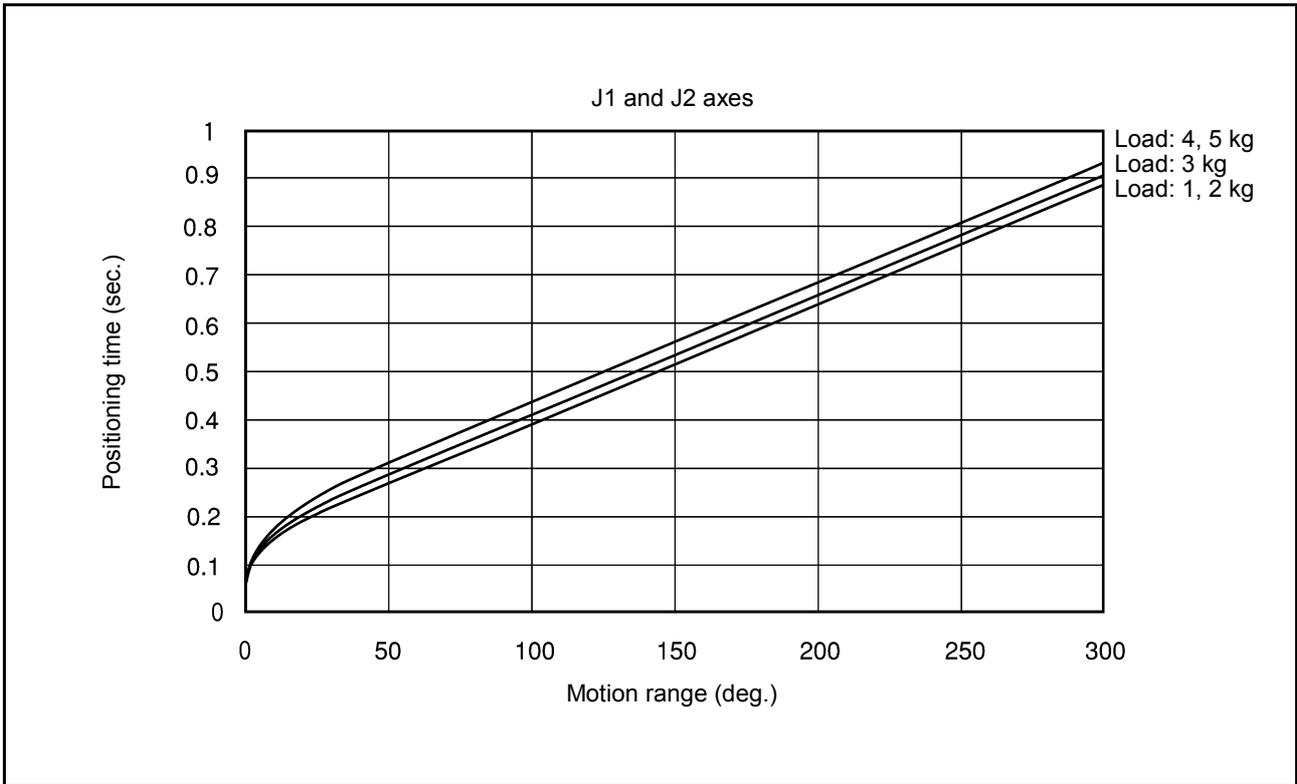

Figure 1-27 Movements of J1 and J2 Axes
1. Figures 1-27 through 1-36 show the positioning times used to calculate the cycle time.
The positioning time of J1 and J2 axes shown in Figure 1-27 therefore becomes longer according to the maximum speed limit shown below.
$$\frac{\text{[Movement time given in Fig. 1-27 (sec.)]}}{\text{Max. speed limit}} \times 100 \text{ (sec.)}$$